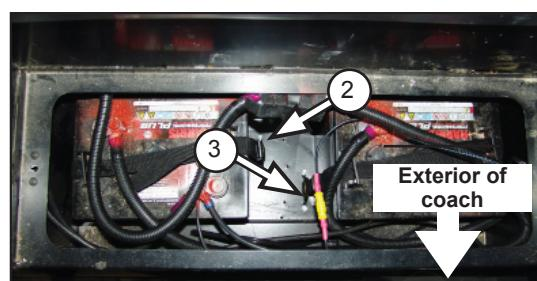

Figure 9
- d. With the batteries separated, install Bracket "2" and Bracket "3" on the bottom surface of the compartment at the location shown on the diagram in Figure 6. Reference also the photo in Figure 9.